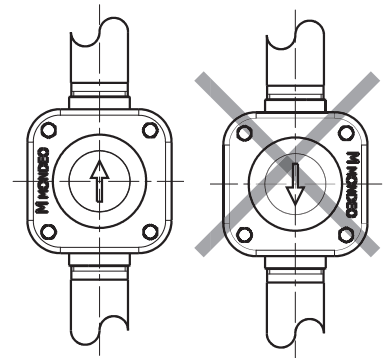

fig. 2
- The valve can be installed vertically (Fig. 2) with the flow direction arrow pointing up.